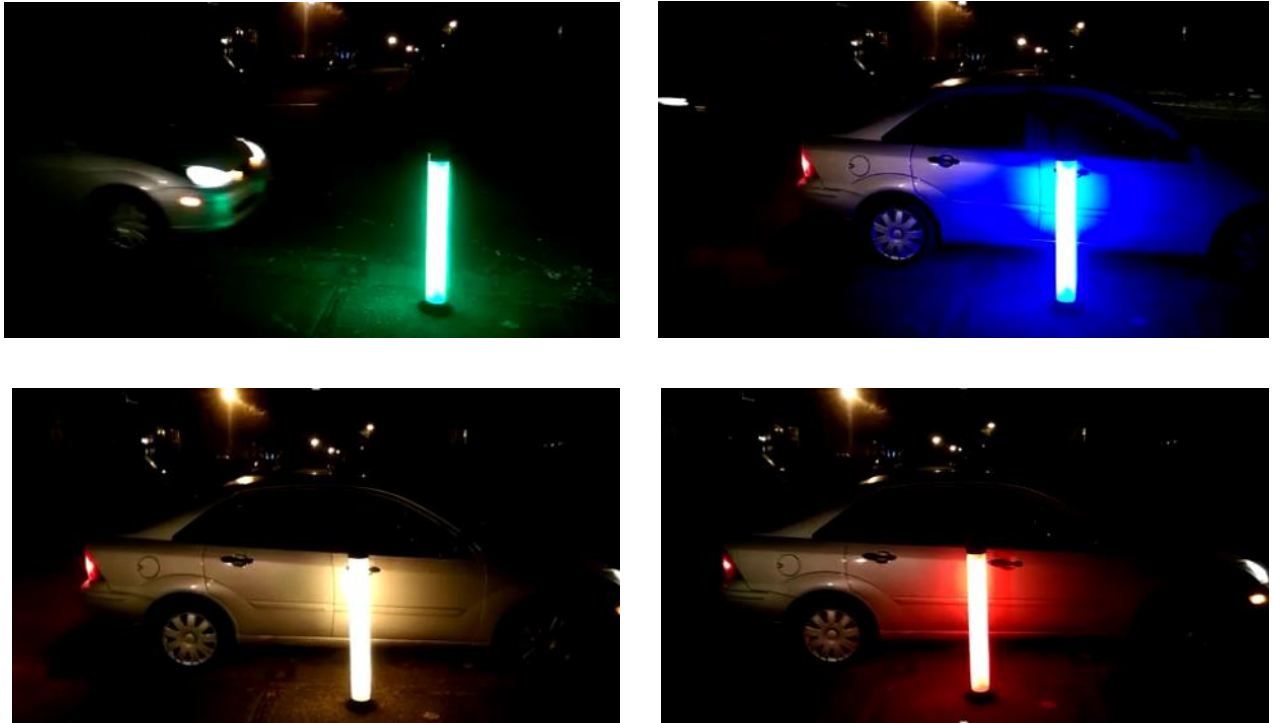

Figure 2 - Different stages for API in one complete Cycle
- RGB LEDs – Provides the visual outputs seen in figure 2
As it can be seen from figure 2 the API does exactly what had anticipated. Initially when the car approaches the API the user will see the green light (which means he or she can park). Once the car is fully settled into its parking spot the light will indicate to the user that the parking spot has been taken. Once the user approaches parking expiration the light will turn yellow telling the user that parking time allotted for that spot is almost up. Finally once the light turn's red it indicates to the user that the parking spot has expired and it is in his or her best interest to the move the vehicle. Although the final product did what we wanted it too there were several other things that we had to take into consideration when building this prototype like cost